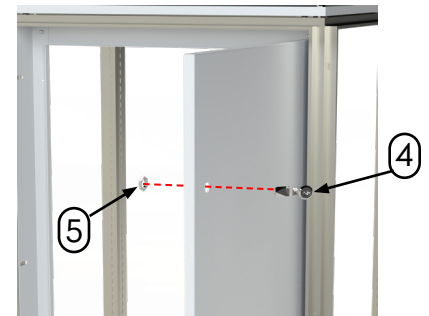

Figure 6
- Tighten until the nut is flush against the inside surface of the door. See Figure 6.